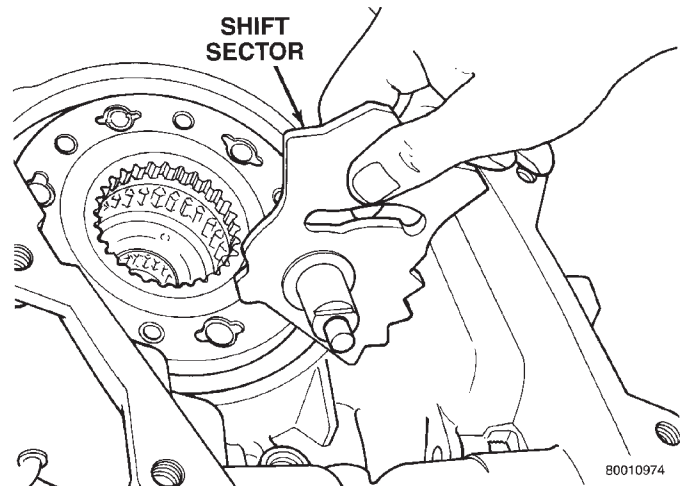

Fig. 28 Shift Sector Removal
(4) Remove shift sector from front case (Fig. 28).